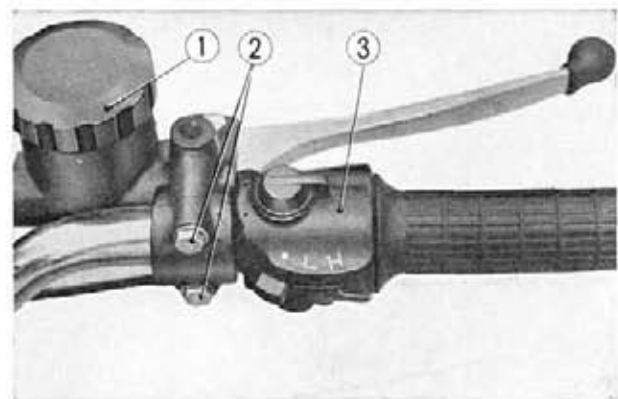

Fig. 11-2 ① Master cylinder body
1. Remove the master cylinder body by unscrewing the two master cylinder body mounting bolts and disconnect the clutch cable from the clutch lever. (Fig. 11-2)